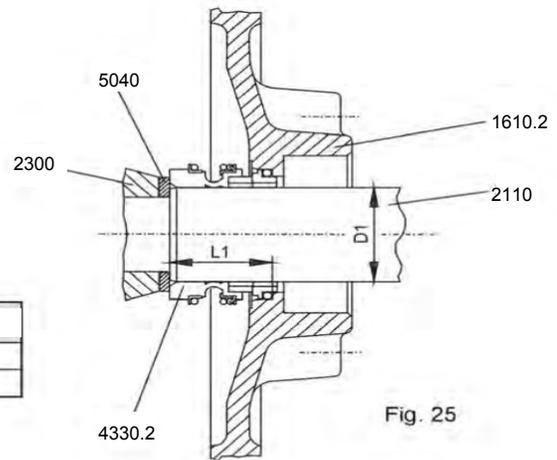

Fig. 25
6.2.4 Single mechanical seal (SMS)(Fig. 25):